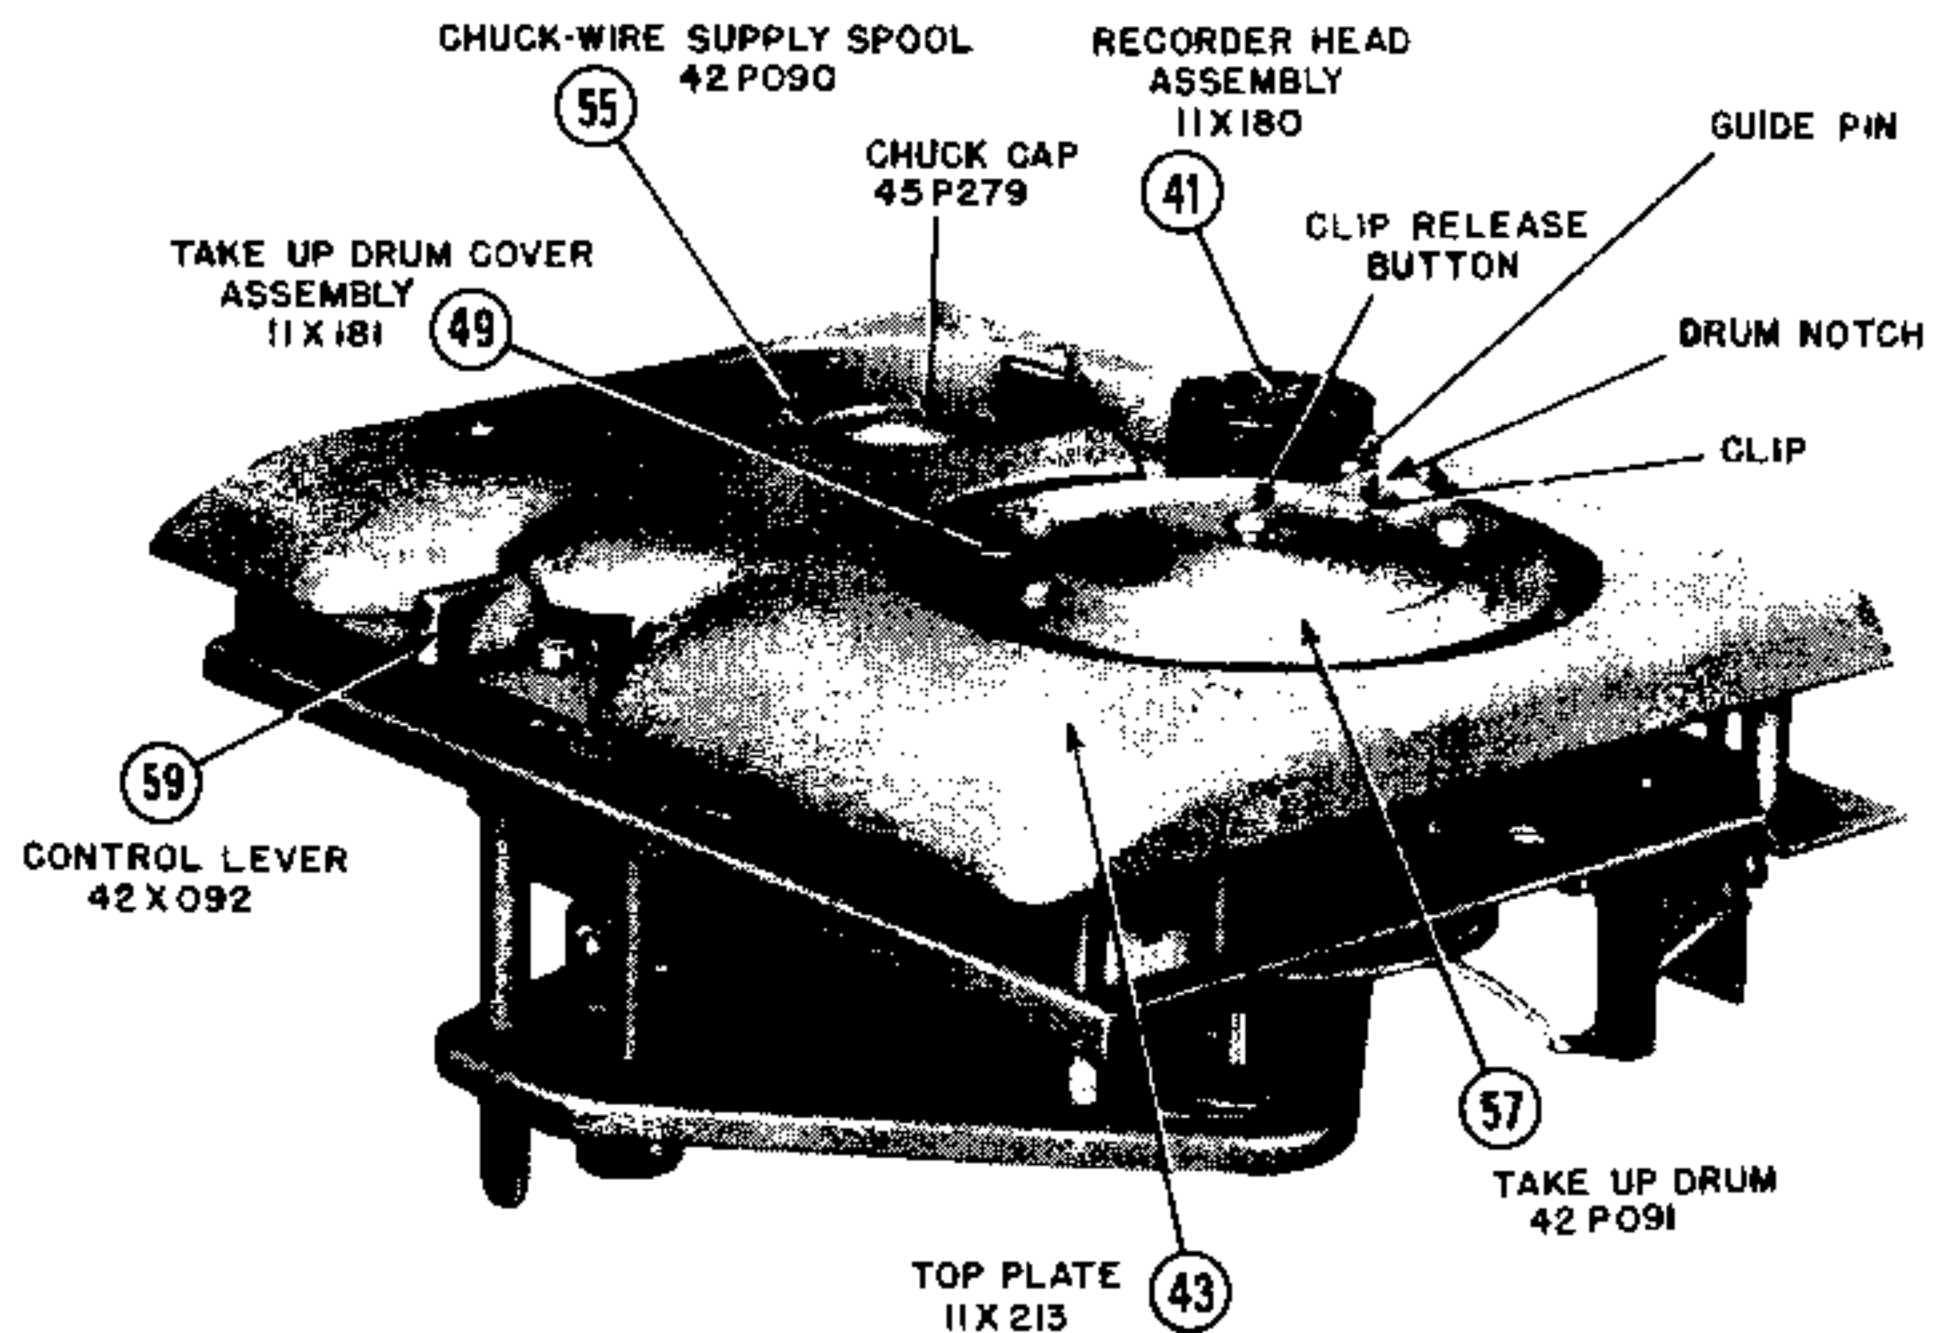
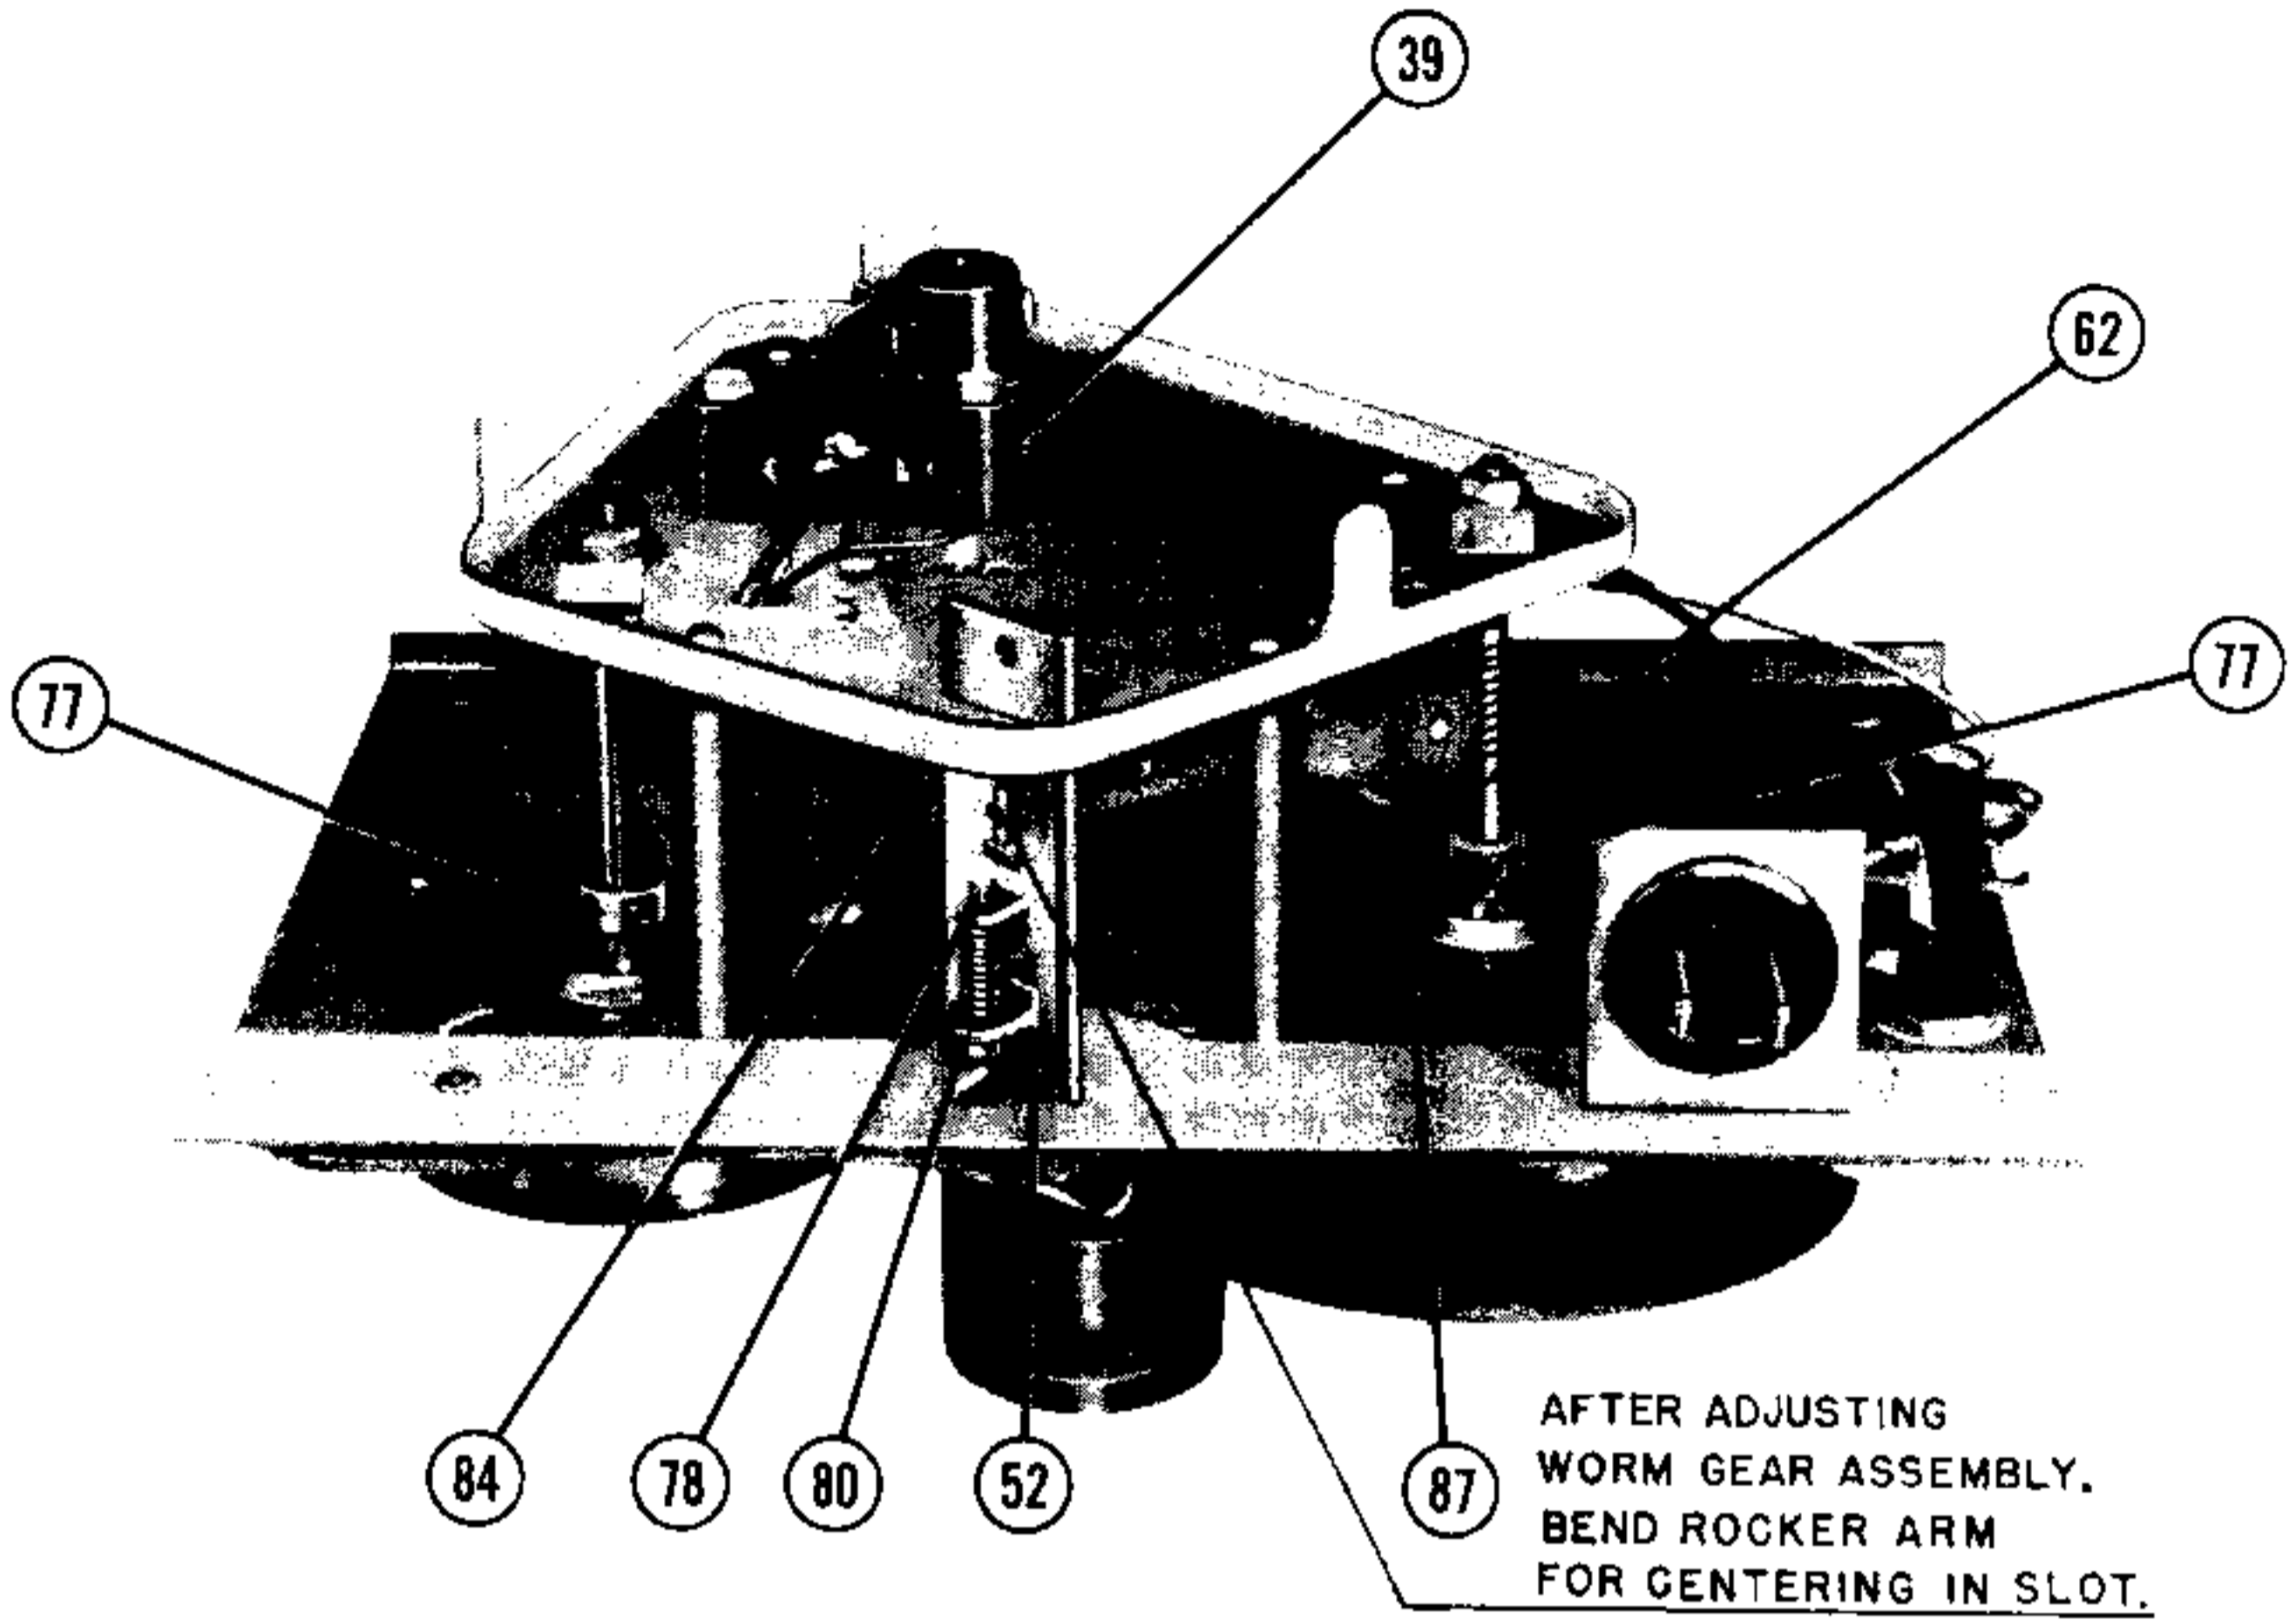
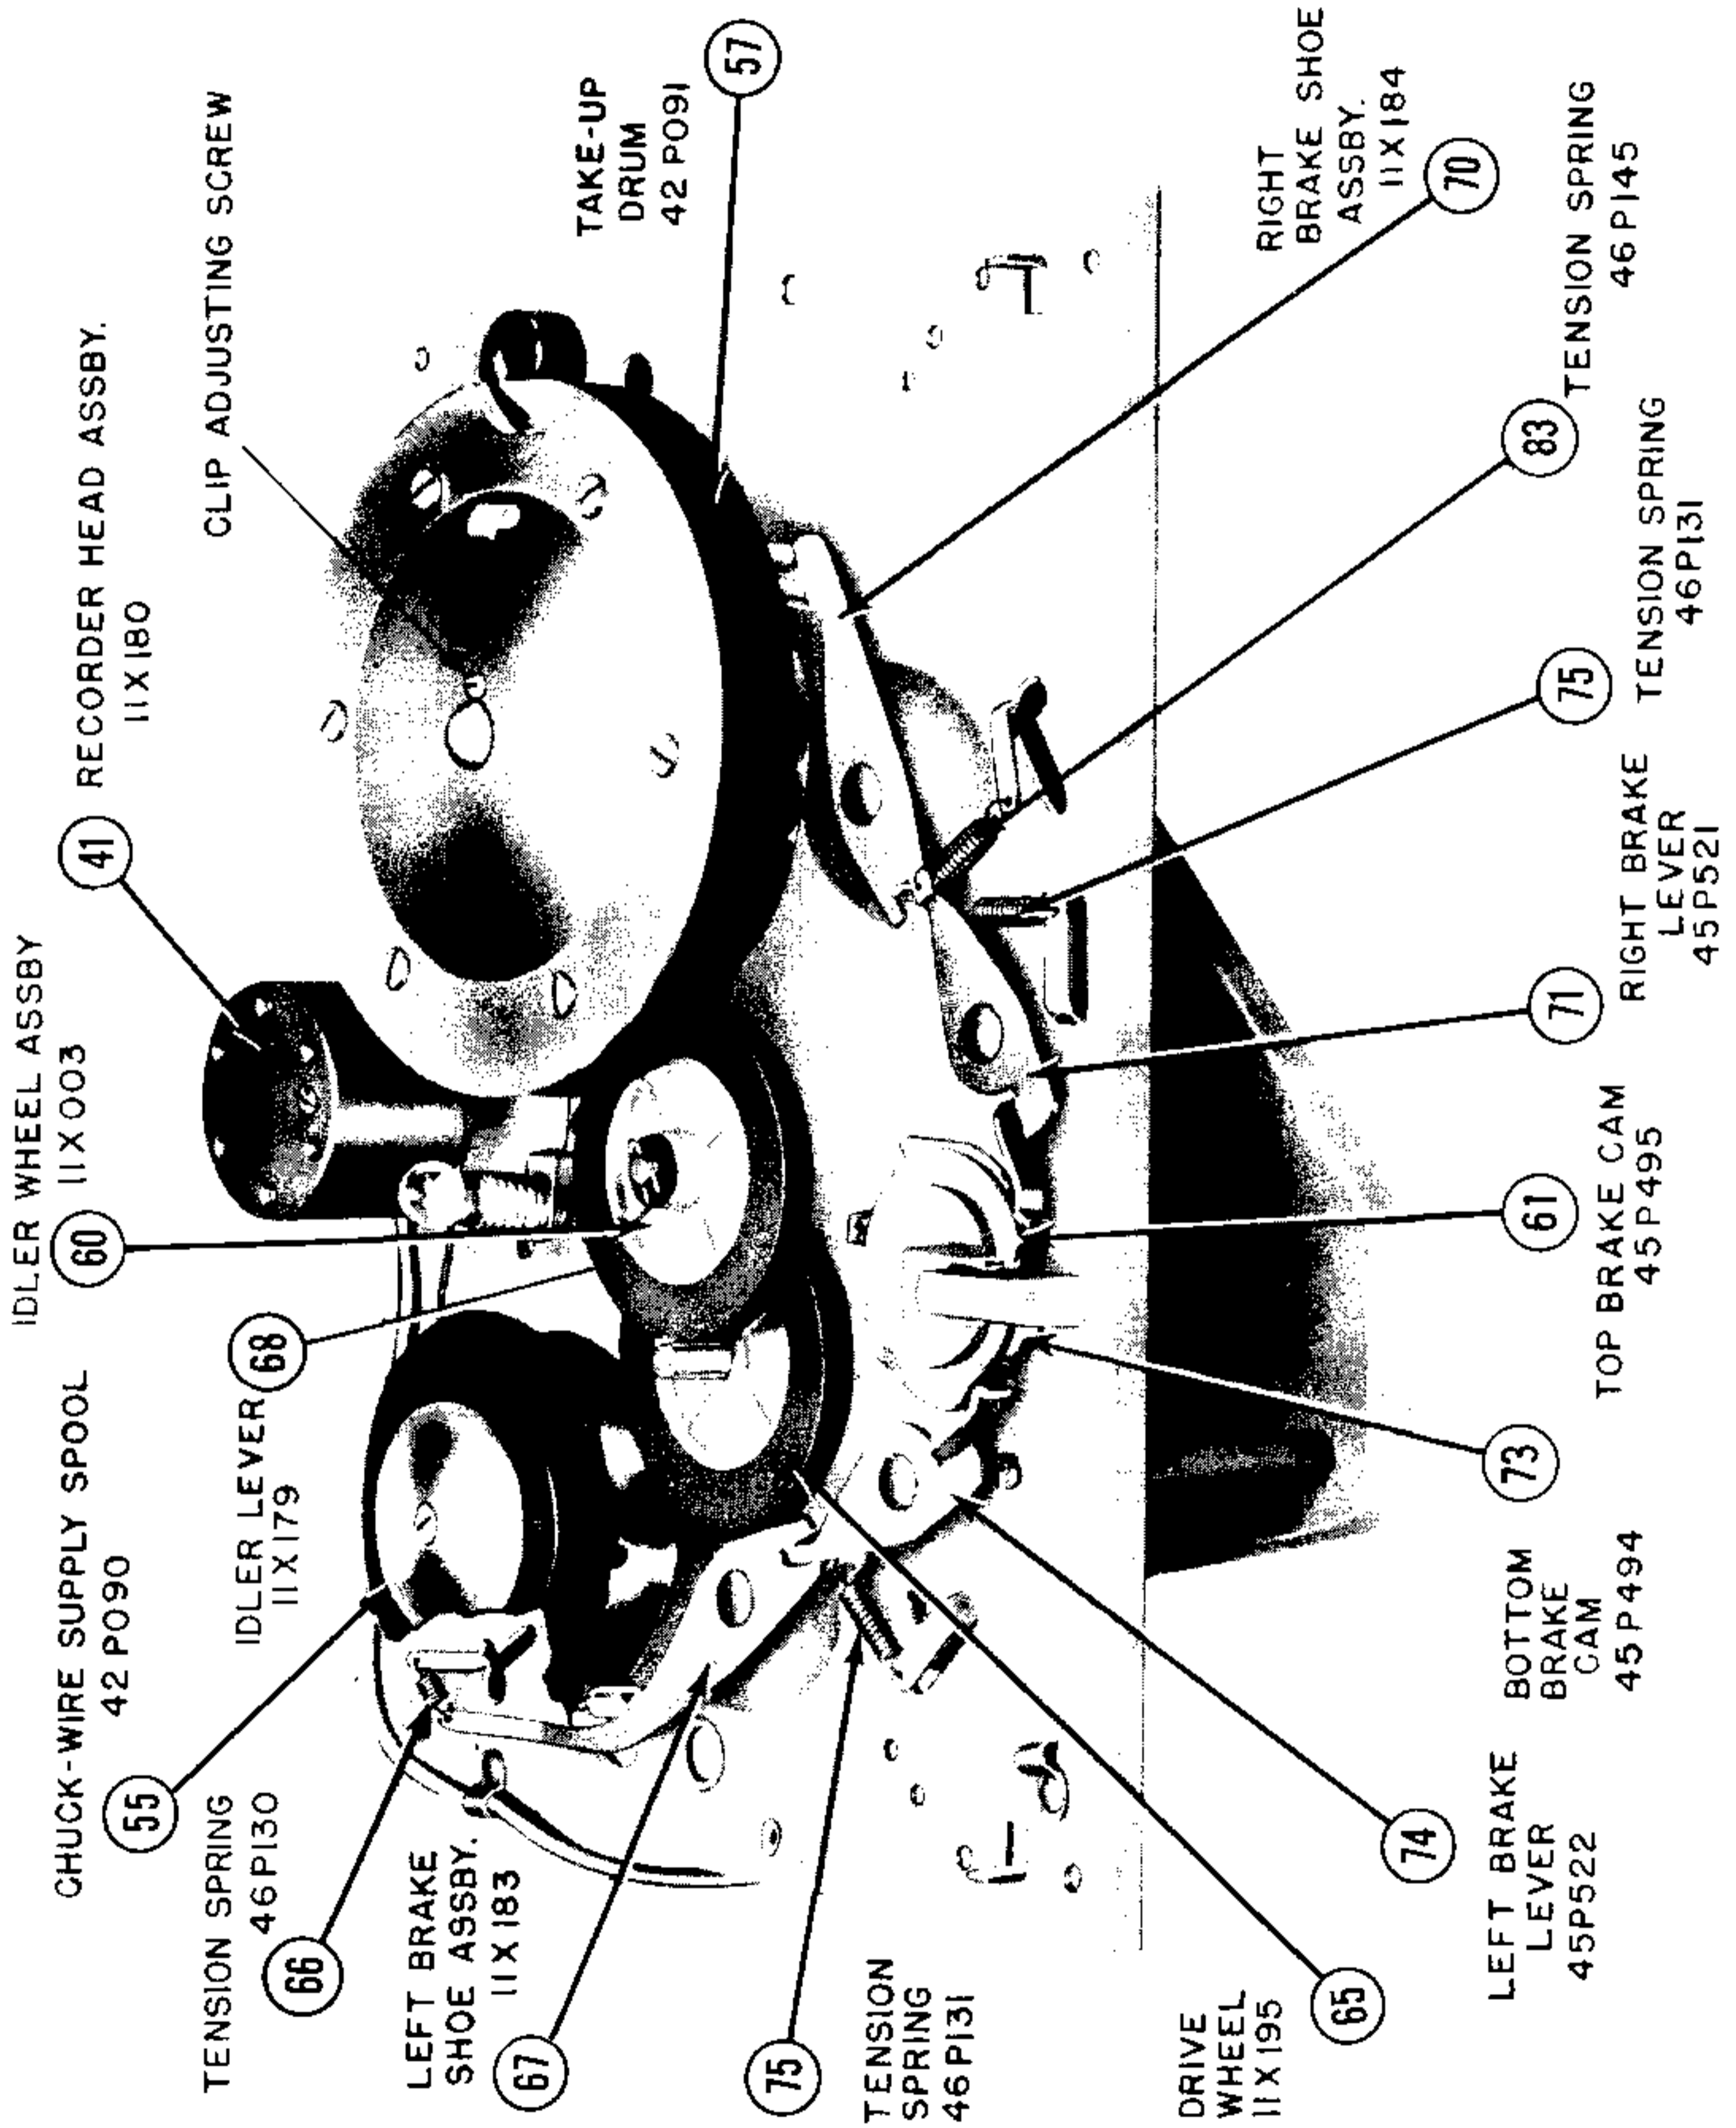
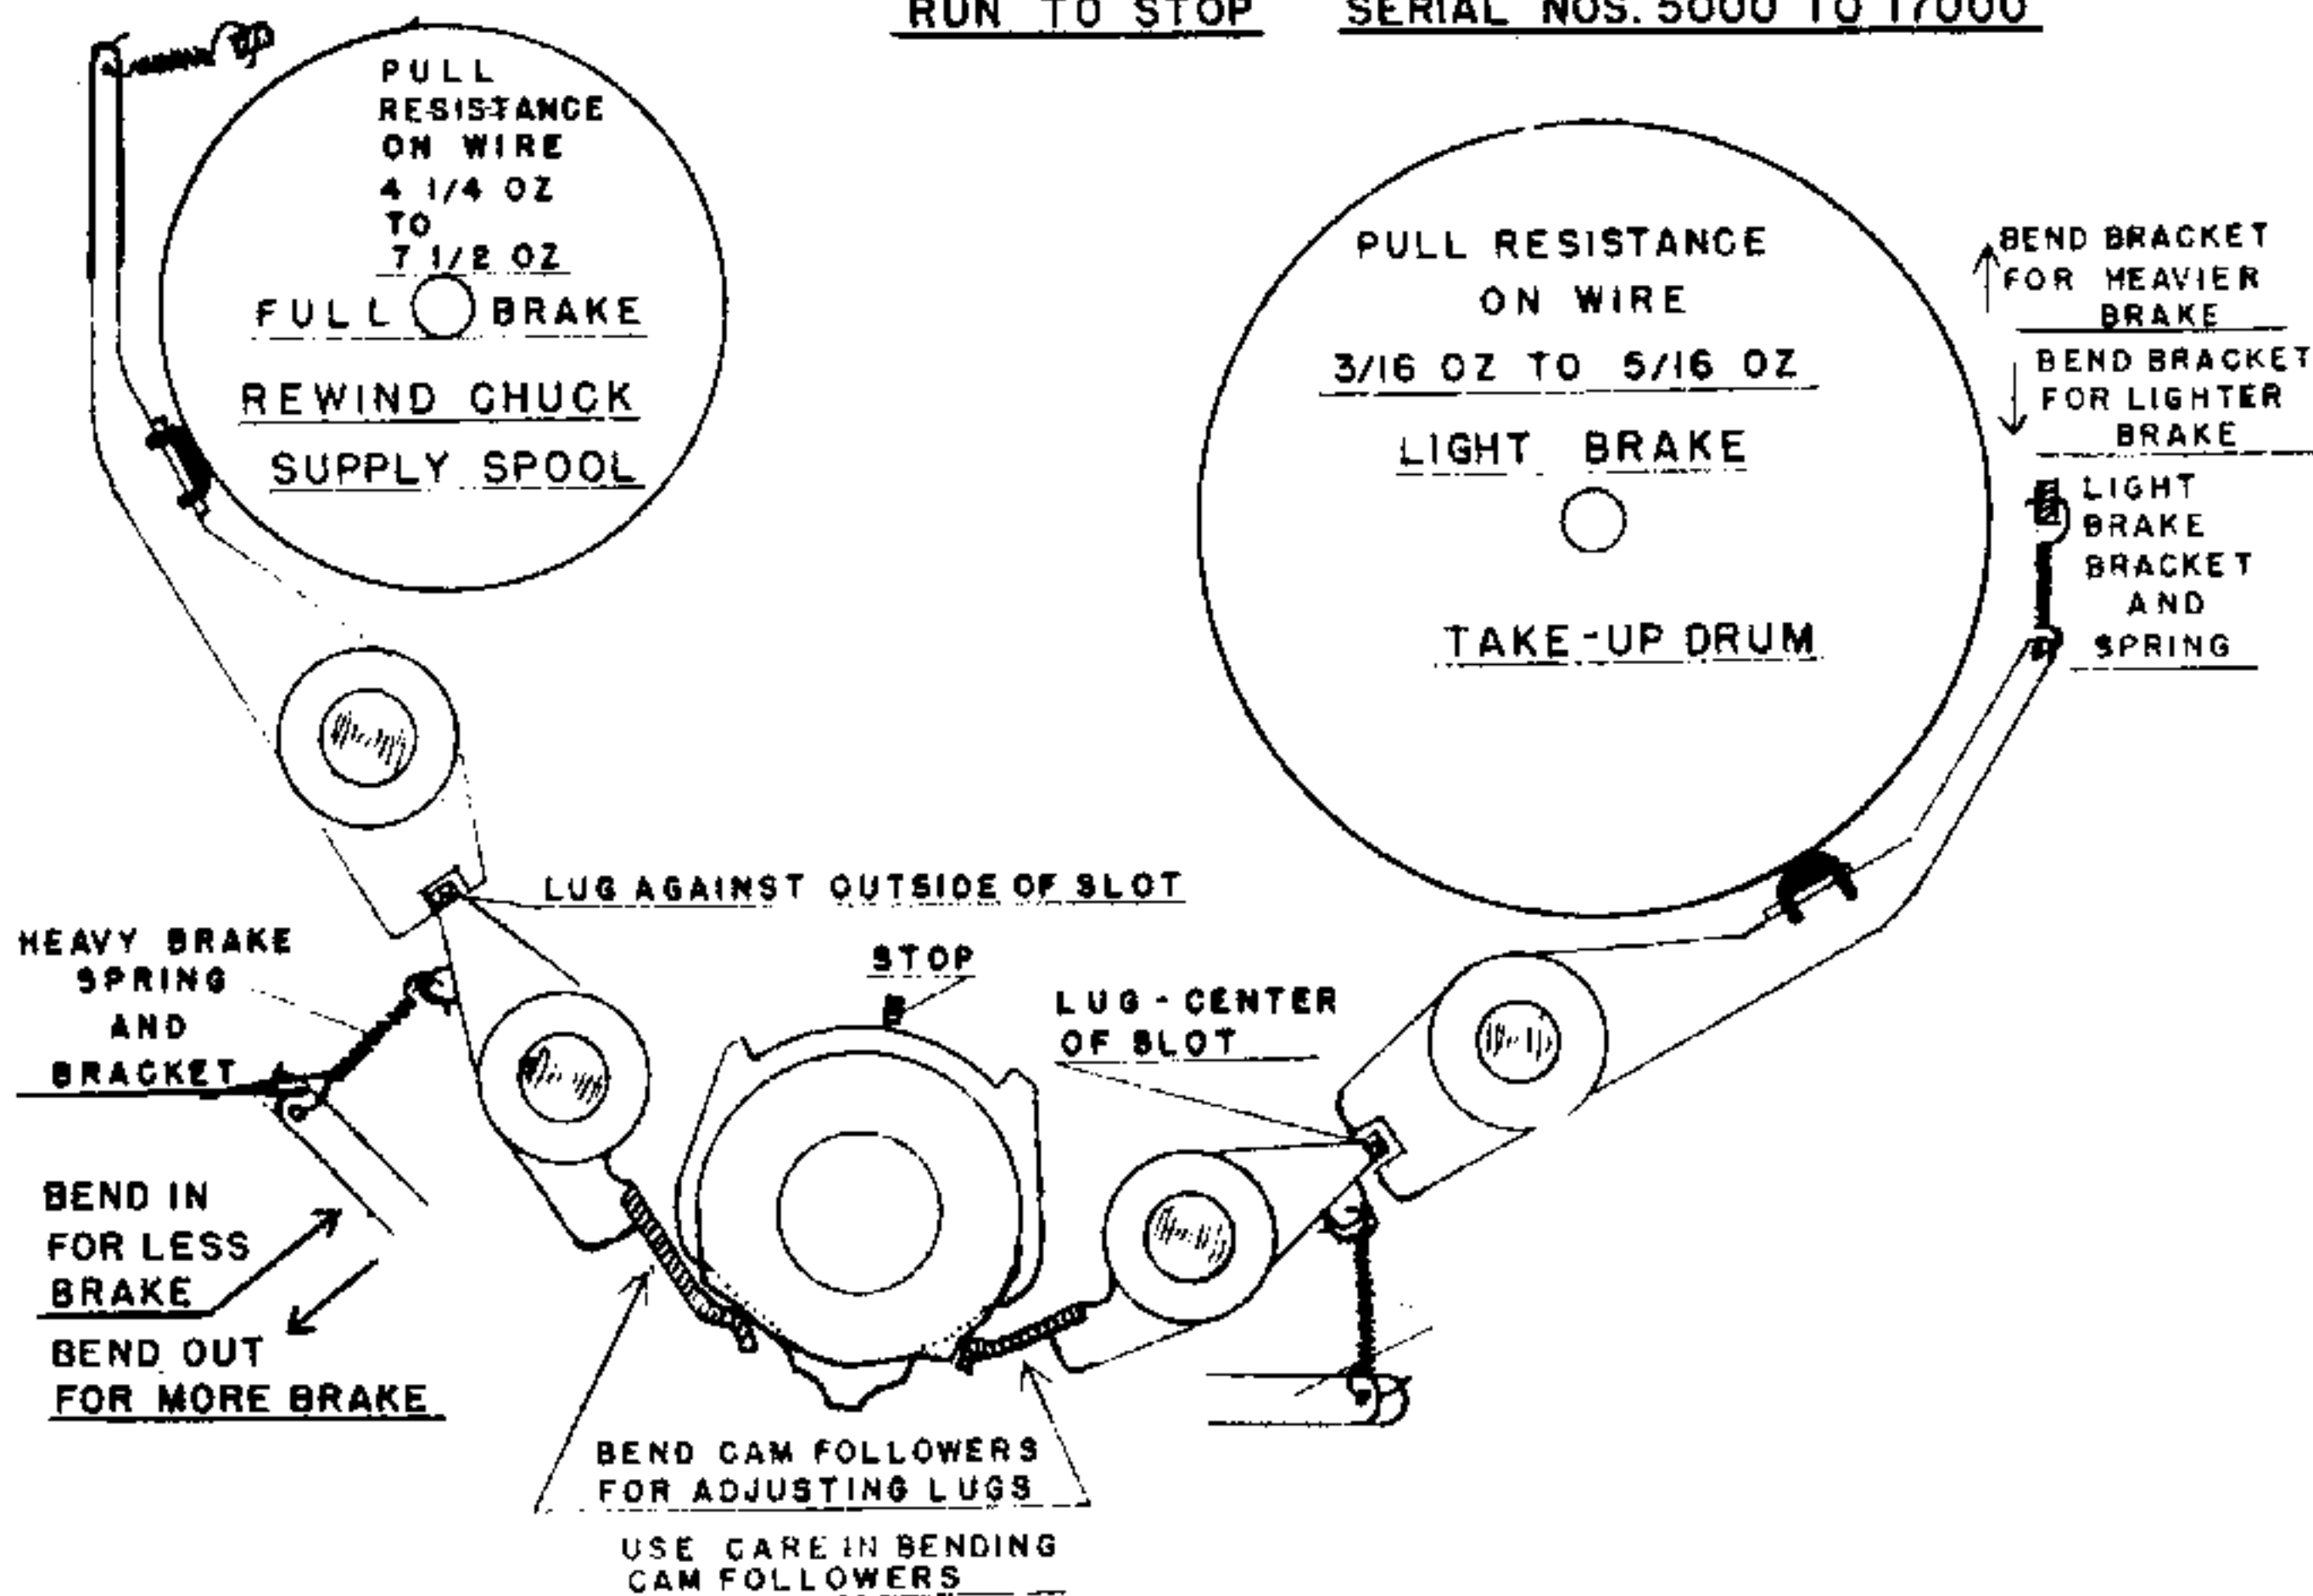

Fig. 2 — MODEL 79 FOUNDATION UNIT
Fig. 11 — REAR VIEW — DRIVE MECHANISM
Fig. 14 — BRAKING MECHANISM
Fig. 17 — BRAKES — RUN TO STOP (SERIAL NOS. 5000 TO 17000)
If wire spills over the top or bottom of both the take-up drum and the supply spool when recording or rewinding, adjust the stroke of the recording head by means of the recording head adjusting screw (illustration 80, Fig. 11). This screw is reached by removing the top cover (Fig. 2) and inserting a screw driver through the small hole shown in Fig. 11.
The wire clip on the take-up drum cover (Fig. 2) is set to give a little jerk as the last turn of wire leaves the spool during "Rewind". This jerk causes the last turn to tuck into the lower layers of wire on the supply spool and prevents unravelling. If the tension is too weak, the wire will not be held and this tucking will not take place. The tension of the clip is adjusted by turning the adjusting screw (Fig. 2). On a few units this tension is adjusted by turning the nut. It is necessary to remove the take-up drum cover (Fig. 2) to make this latter adjustment.
Grime may accumulate in the slot of the recording head (Fig. 2). Dirty or gummy wire, due to handling, will cause the recording head to become gummy. This not only will cause the wire to pull hard through the recording head but will in some cases act as an insulator and cause "WOWS". Use a fine stiff brush (toothbrush) dipped in carbon-tetrachloride to clean the groove.
control lever (Fig. 2) operating on a cam attached to the motor control lever.
Check the adjustment of the cam and rocker arm assembly (Illustration 87, Fig. 11) against the take-up wheel drive post (Illustration 62, Fig. 11). Back lash should be .002 to .005. If greater, loosen screws (Fig. 11) and re-set. If the gear is loose on the rocker arm, replace the entire assembly.
See that no grease or oil has been permitted to get on the drive wheel tire (Illustration 65, Fig. 14) or the idler wheel (Illustration 60, Fig. 14) or the take-up drum (Illustration 57, Fig. 14). Any oil or grease at these points will cause slippage, which in turn is transferred to "wow". Clean thoroughly with carbon-tetrachloride. "Flutter" may be caused by roughness in part of the driving train such as scoring of the take-up drum with a sharp instrument in removing spilled wire. Excessive vibration is usually due to getting something out of alignment, causing "flutter". "Flutter" is very rare and occurs only when unusually rough treatment has been given the wire recorder.
A "memory" brake system to control the feeding of the wire is tied in with the control lever (Illustration 59, Fig. 14). When this lever is moved from its "Stop" position to its "Run" position, a light brake is applied to the supply chuck (Illustrations 55 and 18, Figs. 14, 15, 16). When the control lever is returned to the "Stop" position, a heavy brake is applied to the same chuck and a light brake applied to the take-up drum. (See Figs. 17, 18).
To adjust the brake, bend the base plate lug to which the tension spring (Figs. 14, 15, 16) is attached. In extreme cases, slightly bend the brake lever (Illustration 74, Fig. 14). When properly adjusted, the upright flange of the left brake lever (74) should be approximately centered in the slot of the left brake shoe assembly. (67), Fig. 14.
- 1 — Sliding surfaces or slide and socket assembly. (Illustration 52, Fig. 11).
- 2 — Sliding surfaces of brake cams (Illustrations 61 and 73, Fig. 14) and control lever (Fig. 11). Be sure to grease the edges of the cams where they rub against the brake levers. (Illustrations 71 and 73, Fig. 14).
- 3 — Pivots of brake control levers (Illustrations 71 and 73, Fig. 14) and brake shoe assemblies (Illustrations 67 and 70, Fig. 14). Do not use grease in the slots of the brake shoe assemblies.
- 4 — Under the idler level assembly (Illustration 68, Fig. 14).
- 5 — On the worm shaft (Illustration 62, Fig. 11) where it contacts the gear of the rocker cam assembly. (Illustration 87, Fig. 11).
- 6 — On the outside edge of the cam (Illustration 87, Fig. 11).